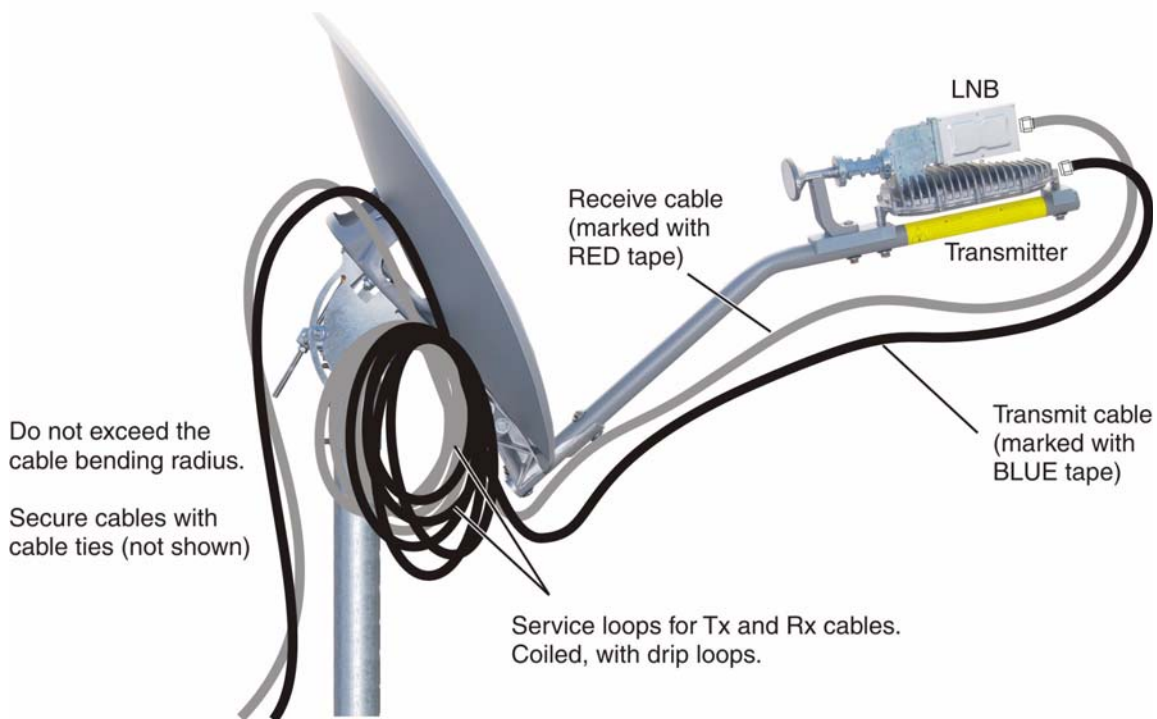

Figure 29: Transmit and receive cable configurations
1. Route the Tx cable (marked with blue electrical tape) over the az/el mount assembly, down behind the reflector, and along the feed support arm to the rear of the transmitter, in a configuration similar to that shown in Figure 29.
4. Route the Rx cable (marked with red electrical tape) over the az/el mount assembly, down behind the reflector, and along the feed support arm to the LNB, in a configuration similar to that shown in Figure 29 above.